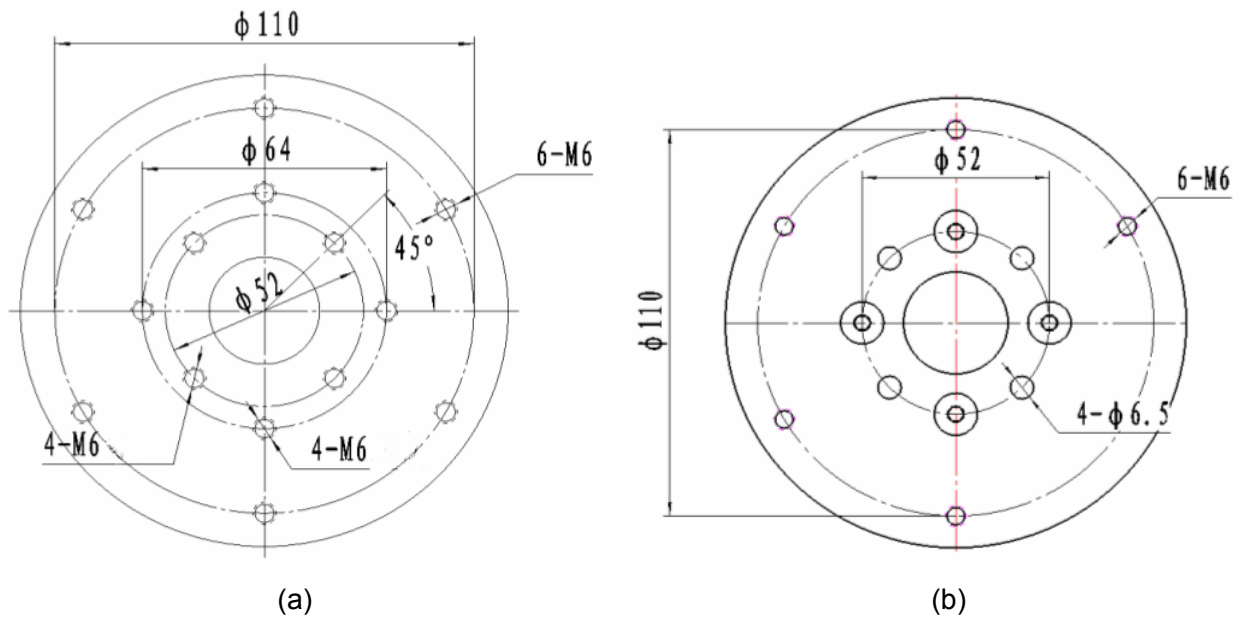

Figure 12. iEQ45 dovetail mounting hole distribution for (a) iEQ45 and (b) iEQ45 with modified clutch
Both Vixen and Losmandy-D dovetail saddles are included for your convenience. Two (2) M6X14 hex head screws are used for the Vixen dovetail saddle. Additionally, four (4) M6X14 screws are provided for the Losmandy-D saddle installation. A customer-made large adapter can also be installed. The mounting-hole distribution on the mount is shown in Figure 12(a). If you have a iEQ45 with modified clutch, the mounting-hole distribution is shown in Figure 12(b). Six (6) M6X20 hex head screws are included.